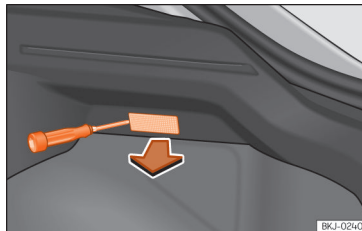

Fig. 62 Boot light.
- Extract the bulb by pressing on its inside edge using the flat side of a screwdriver »» **Fig. 62**.